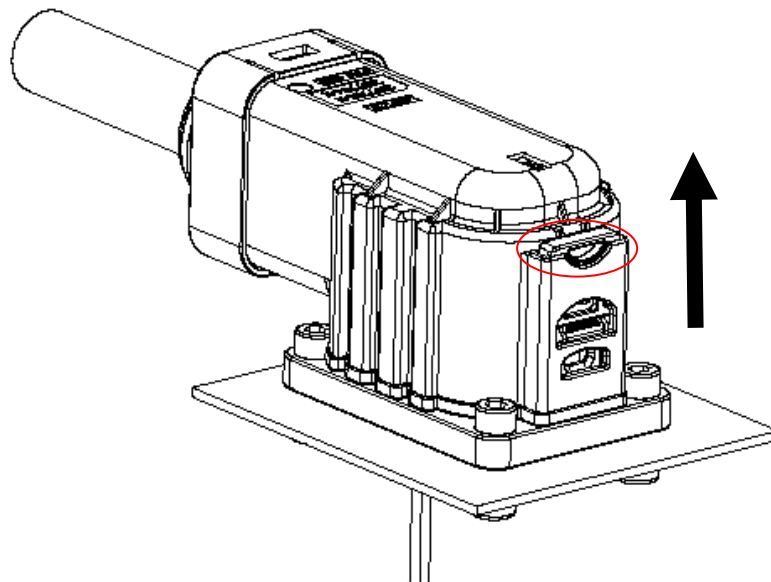

Figure 31
- A. Release CPA to pre-lock position of the plug assembly manually as shown in Figure 31.